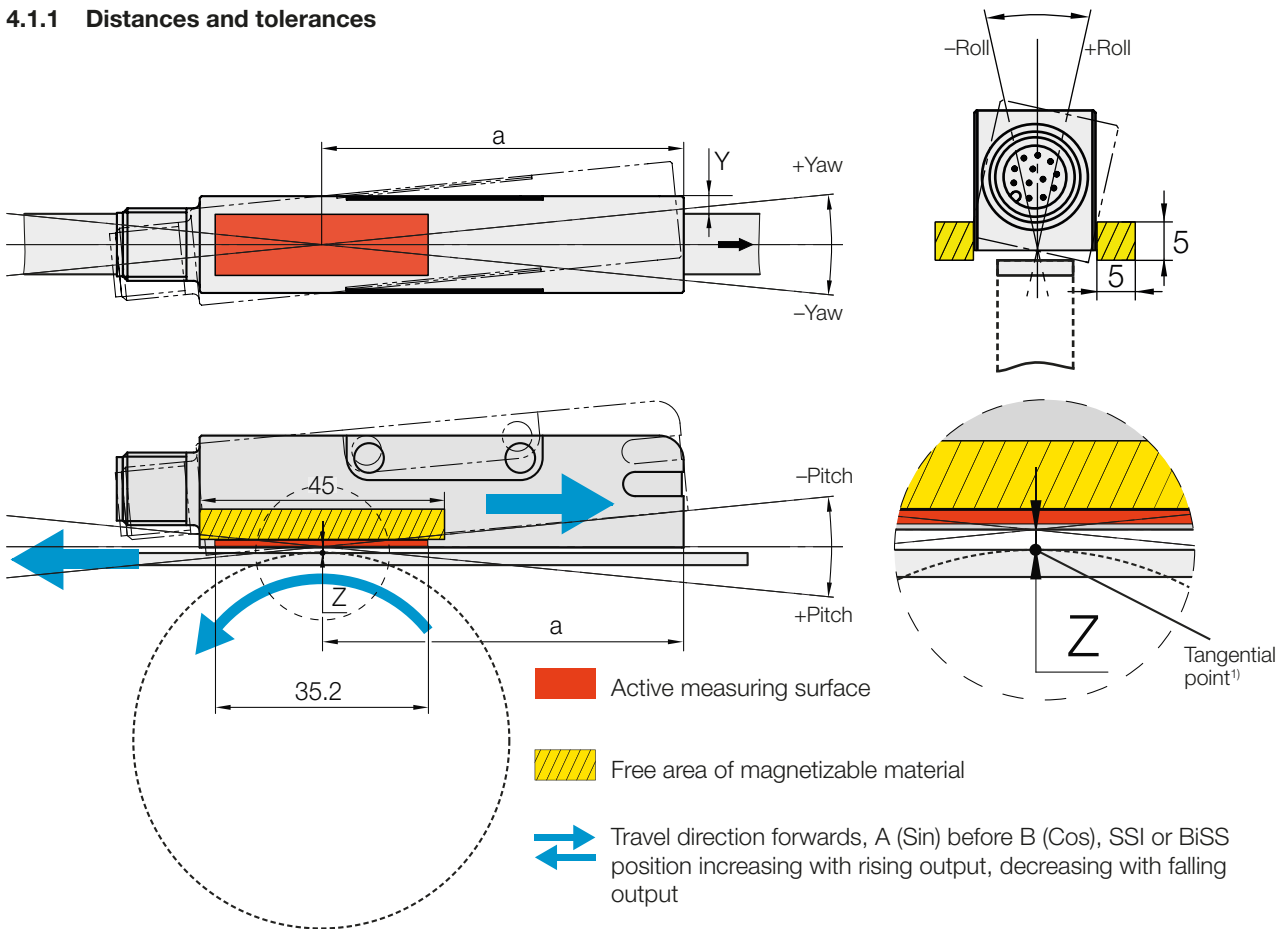
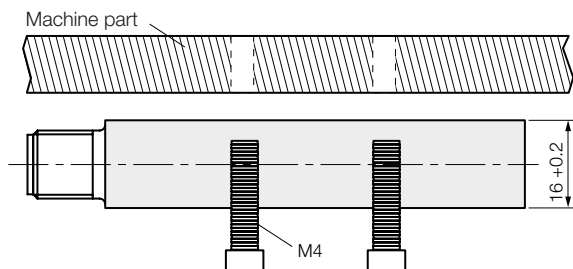
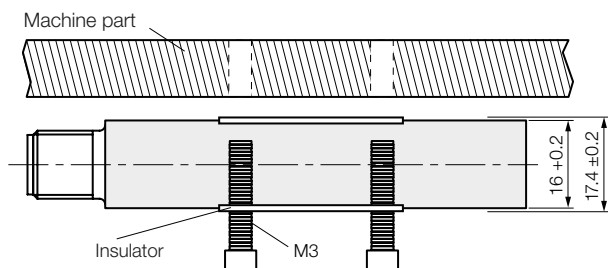

Fig. 4-1: Distances and tolerances
Fig. 4-4: Installing sensor head (without insulators)
Fig. 4-5: Installing sensor head with insulators
3. Fasten the left or right side of the sensor head to the machine member while observing the distances and tolerances (see Fig. 4-1) (see Fig. 4-4 and Fig. 4-5).